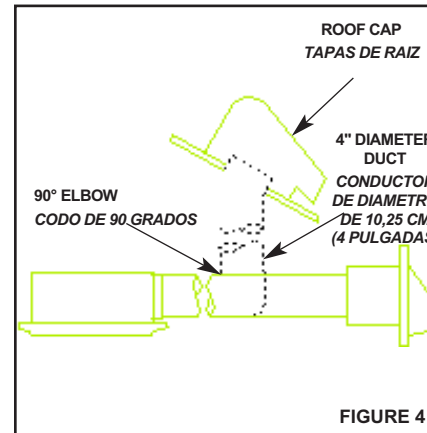

FIGURE 4
2. **Refer to Figure 4.** Run 4" round duct from outside to fan's discharge opening.
**WIRING AND DUCTING:** Refer to Figures 5 and 6 for wiring and to Figure 4 for ducting. Plan ducting and wiring before proceeding with installation.
- (1) Ducting can be installed or that area is sufficient for proper venting. The ceiling joists should run toward an outside wall.
- (2) Wiring can be run to the planned location.
- (3) No wiring or other obstruction might interfere with installation.